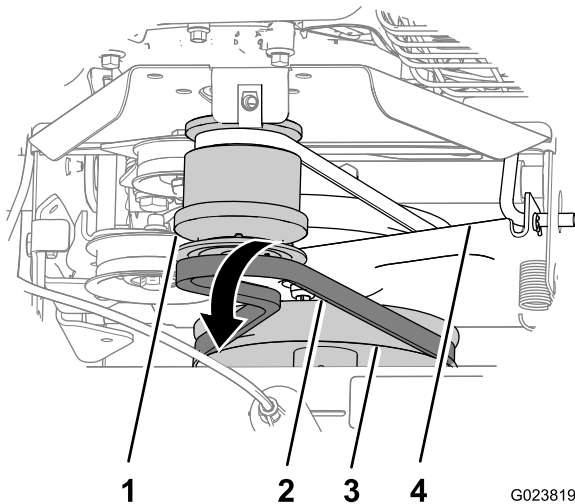

Figure 39
- Slip the belt forward over the forward groove of the engine pulley (Figure 39).
- Slip the belt off of the broom-gearbox pulley, move the belt rearward between the pulley and the traction-control bracket, and remove the belt from the machine (Figure 39).
- Align the replacement belt between the pulley and the traction-control bracket (Figure 39).
- Slip the belt onto the groove at the bottom of the broom-gearbox pulley (Figure 39).
- Slip the belt onto the forward groove of the engine pulley (Figure 39).